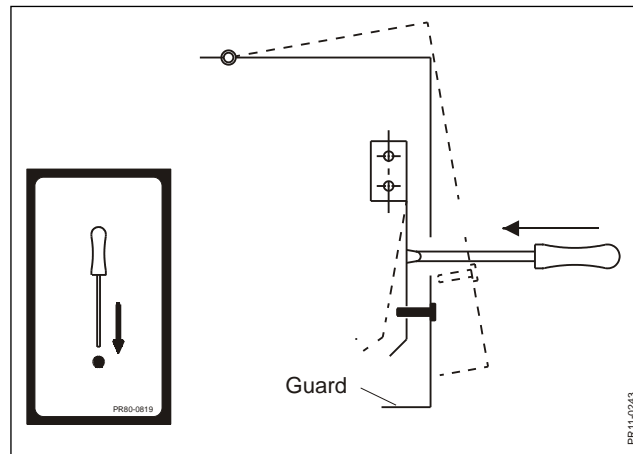

Fig. 7-1
**Fig. 7-1** When maintaining the machine, you will often need to open or remove guards. All guards have been fitted with locks for safety reasons. The lock ensures that the guard cannot be opened without using a tool. The figure illustrates the locking principle and the corresponding transfers which indicate and illustrate the locks on the machine.